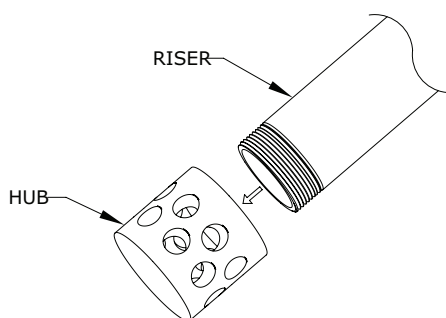
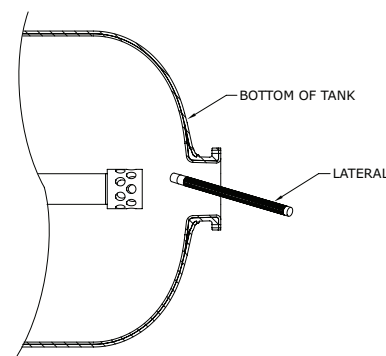

Figure 3. Lateral hub and riser pipe.
Figure 4. Installing laterals.
2. Screw the lateral hub to the riser pipe's threaded end. See Figure 3.
4. Locate the laterals and wrap each of them with two (2) wraps of thread sealing Teflon tape. The HCE-450-3 uses eight laterals in a single row. All other systems use 16 laterals in two rows. The HCE-450 has four (4) laterals with 53 slots and (4) with 65 slots. Alternate the laterals when assembling. All other units have eight (8) short laterals and (8) long laterals. The short laterals go along the bottom row of the hub and the long laterals along the top row.
5. Install two laterals 180° apart. Do not tighten because you will need to remove them. See Figure 4.